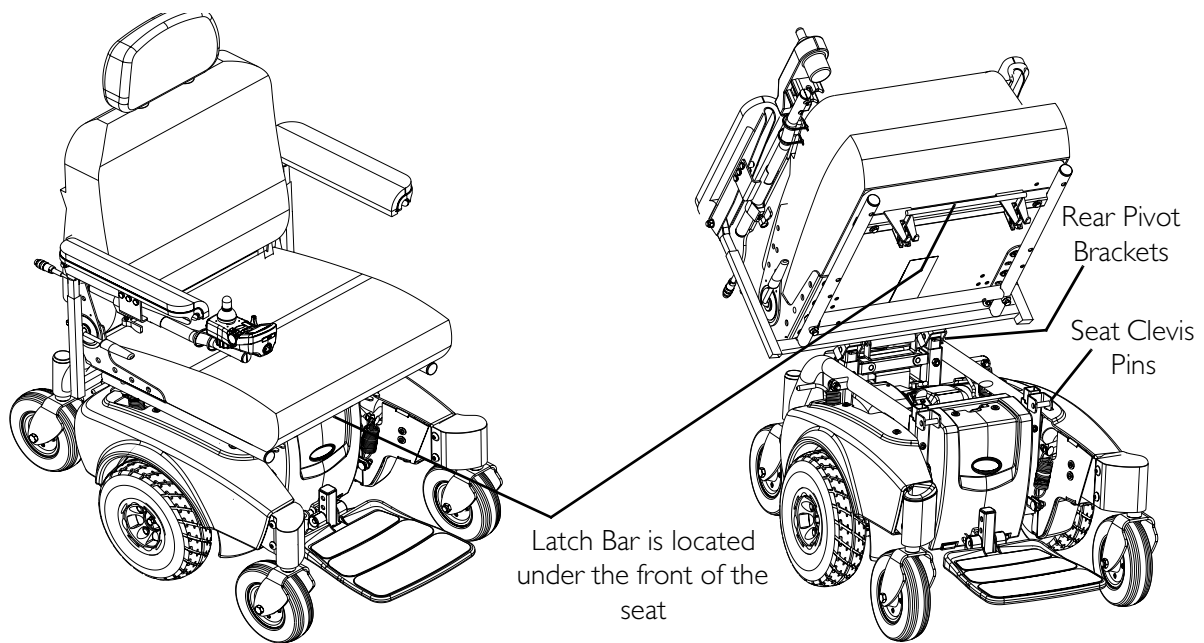

FIGURE 12.1 Removing/Installing the Seat Assembly
NOTE: For this procedure, refer to FIGURE 12.1.
1. Position the seat in the rear pivot brackets as shown in FIGURE 12.1.